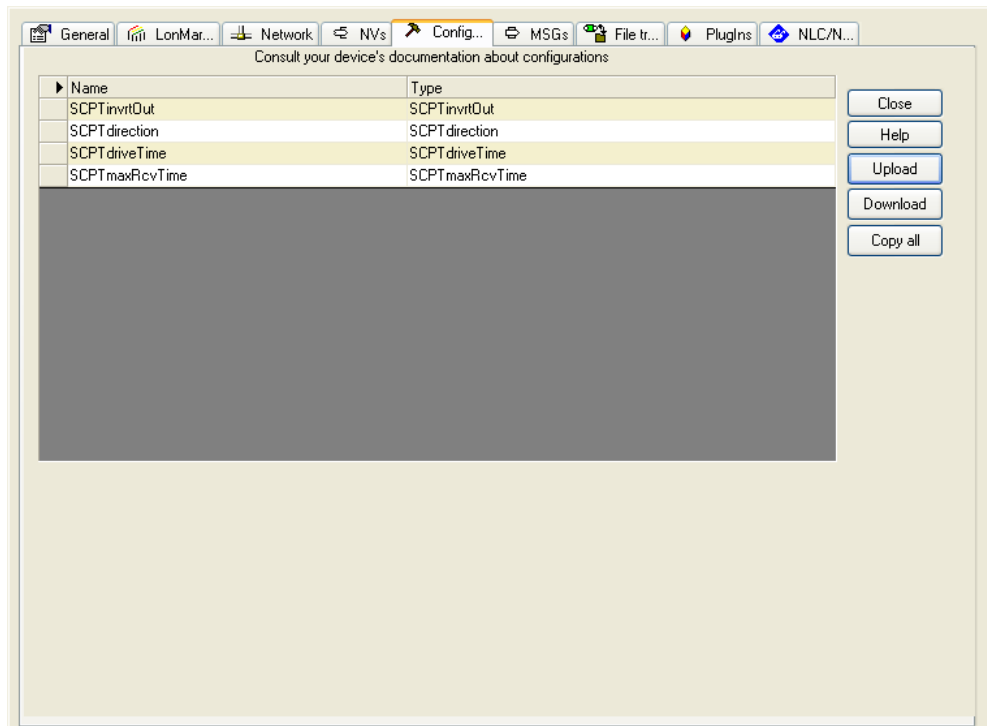

Figure 112: Configuration Tab for Configuration Properties in NL220.
2. Press the **Upload** button on the Configuration tab of the device properties (see Figure 112).